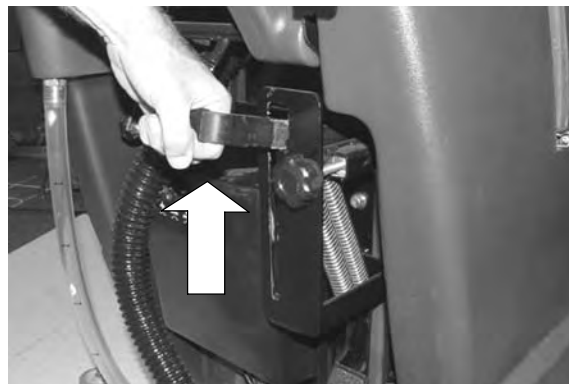

FIG. 18
- b. Lift brush pressure lever to the locked position (Figure 18).